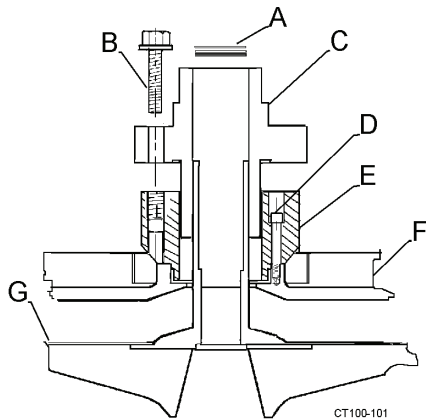
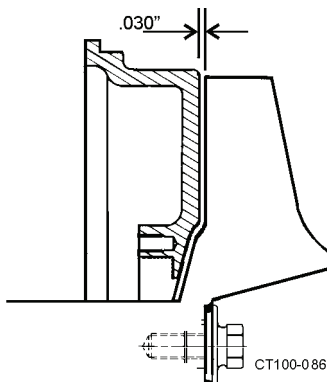

Figure 55 - Remove Seal Assembly.
Figure 56 - Clearance Between Impeller and Backplate
NOTE: The clearance shims that position the impeller within the casing are at the end of the impeller hub (inside the seal.) Keep shims together as a set for reassembly. See Figure 55.
5. Remove cap screws (Figure 55, item B) holding the cartridge seal to the seal adapter. (See Figure 55, items C and E).
7. Pull seal from seal adapter. (See Figure 55, items C and E).
8. Remove seal adapter by removing socket head cap screws (Figure 55, item D) holding adapter to the back plate.
Table 17: Callouts for Figure 55
2. Check the impeller/backplate clearance with the backplate held firmly in position against the motor adapter. Check the space between the back of the impeller and the backplate with a feeler gauge (.030 nominal) while holding the backplate tight against the bearing housing flange. (Any axial movement of the shaft should not be added to the .030 nominal clearance). See Figure 56. If needed, change this clearance by adding or removing shims. Shims (Figure 55, item A) can be added on the drive shaft behind the impeller shaft (Figure 55, item G).